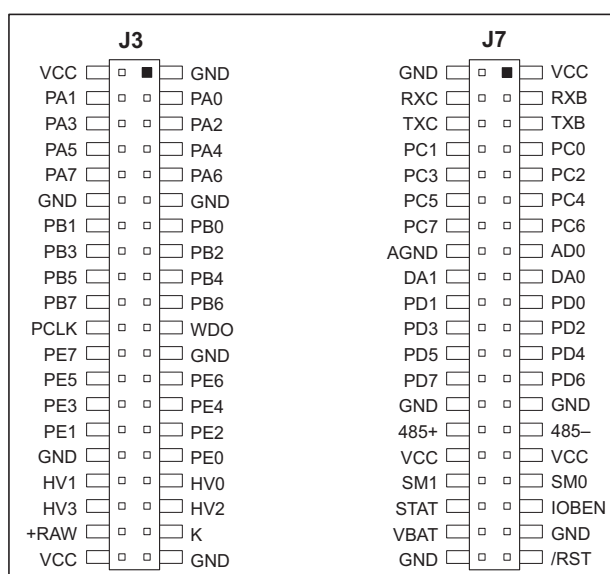

Figure B-7. Jackrabbit I/O Pinout on Prototyping Board (top side)
- **Extension Headers**—The complete pin sets of the Jackrabbit are duplicated at these two sets of headers. Developers can solder wires directly into the appropriate holes, or, for more flexible development, 40-pin header strips can be soldered into place. See Figure B-7 for the header pinouts.
Once the LEDs, resistors, and switches are disconnected as described above, the user has a Jackrabbit board with connection points conveniently brought out to labeled points at headers J3 and J7 on the Prototyping Board. Small to medium circuits can be prototyped using point-to-point wiring with 20 to 30 AWG wire between the prototyping area and the holes at locations J3 and J7. Note that the pinouts at locations J3 and J7 on the top side of the Prototyping Board (shown in Figure B-7) are a mirror image of the Jackrabbit board pinouts.